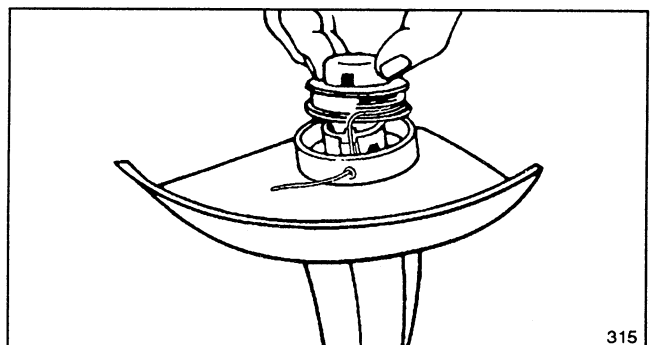

Figure 18
- D. The spool and core are keyed and **must** be properly aligned when putting spool back on. With line still retained in spool groove, thread end of line through eyelet, place spool onto keyed spool core, and push spool inward until you hear it click (Figs. 18 & 19). Pull line to free line from groove in spool. Unwind no more than three inches of line from spool.